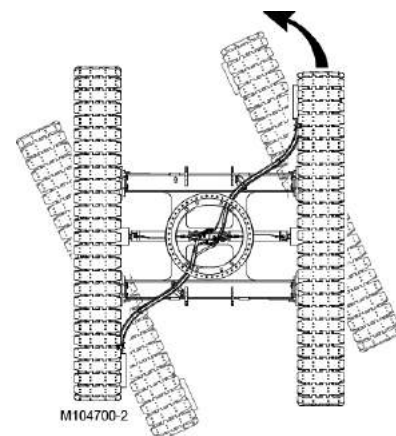

Figure 3-16. Travel Left (sharp turn)
7. To make a SHARP LEFT TURN (Figure 3-16), move the right crawler control handle forward from the neutral position and leave the left crawler control handle in the neutral position. The crane will pivot about the left crawler.